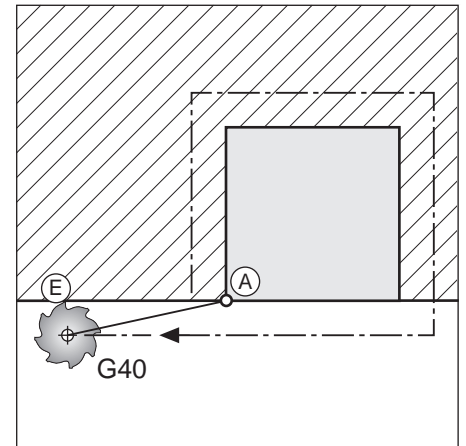

Fig. 5.6 : End position (E) after machining
The best end position (E) lies on the extension of the tool path. The end position can be located anywhere outside of the hatch marked area in Fig. 5.6. It is approached without radius compensation.